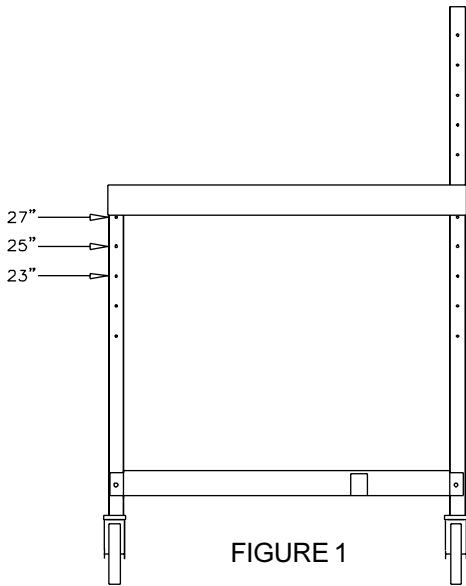

FIGURE 1
Lay the worksurface on a table so that the square brackets and stiffener face up and the 4 corners hang over the table as shown in **FIGURE 1**. To determine the front and back edges of the worksurface use **FIGURE 2** with the measurement shown.
Determine the desired height of your worksurface (the casters will add 5" to the height of the table). **Figure 1** shows the height adjustments possible. Once the desired height has been determined, insert a self tapping screw (CC) approximately 3/4 of the way into each of the correct adjustment holes. Slide each leg down so that the square bracket **rests on the shaft of the self tapping screw**, not the head of the screw. **TIGHTEN ALL SHELF HARDWARE.**